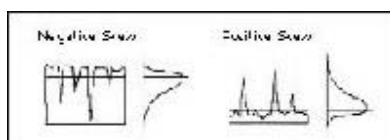

Figure 2. A comparison of negative and positive skewness profile parameters.
2. Rsk - Skewness: negative skew of - 0.25 to - 3.0. (see Figure 2 below)